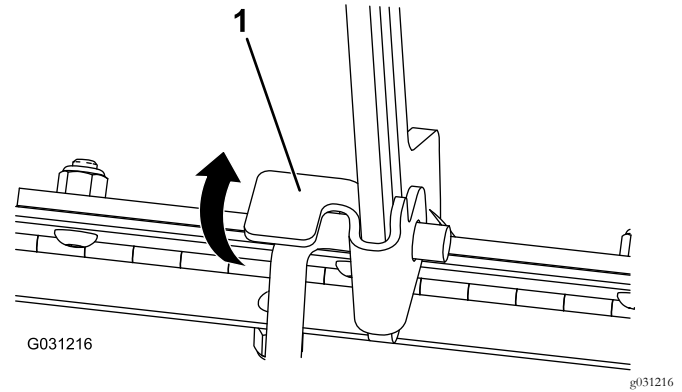

Figure 35
1. Lift up on the tab securing the prop rod (Figure 35)